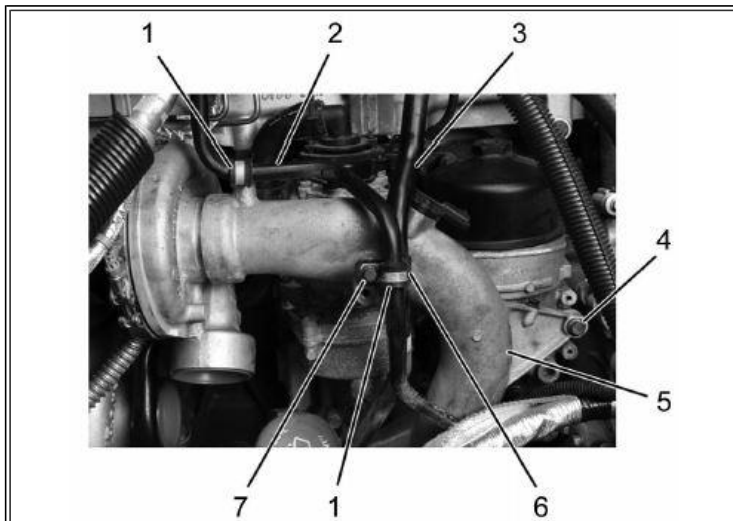

Figure 16: Coolant Supply Tubes
11. Secure HP turbocharger inlet duct (Figure 16, Item 5) with two HP turbocharger inlet duct bolts (Figure 16, Item 4).
12. Position coolant return tube (Figure 16, Item 2), coolant supply tube (Figure 16, Item 3), two coolant return tube P-clamps (Figure 16, Item 1), and coolant supply tube P-clamp (Figure 16, Item 6) on HP turbocharger inlet duct (Figure 16, Item 5), and secure with two coolant tube P-clamp bolts (Figure 16, Item 7).